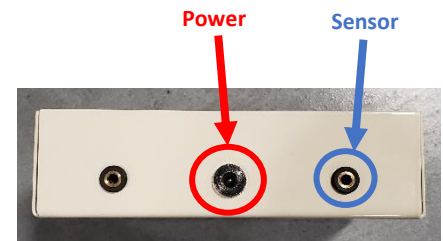

Figure 4 (Top of Control Box)
10. Plug the sensor into the top of the unit (Figure 4). **PLUG ALL SENSORS IN BEFORE ENERGIZING THE UNIT.**
12. Locate ¼" plug from power supply and plug into top of unit (Figure 4).